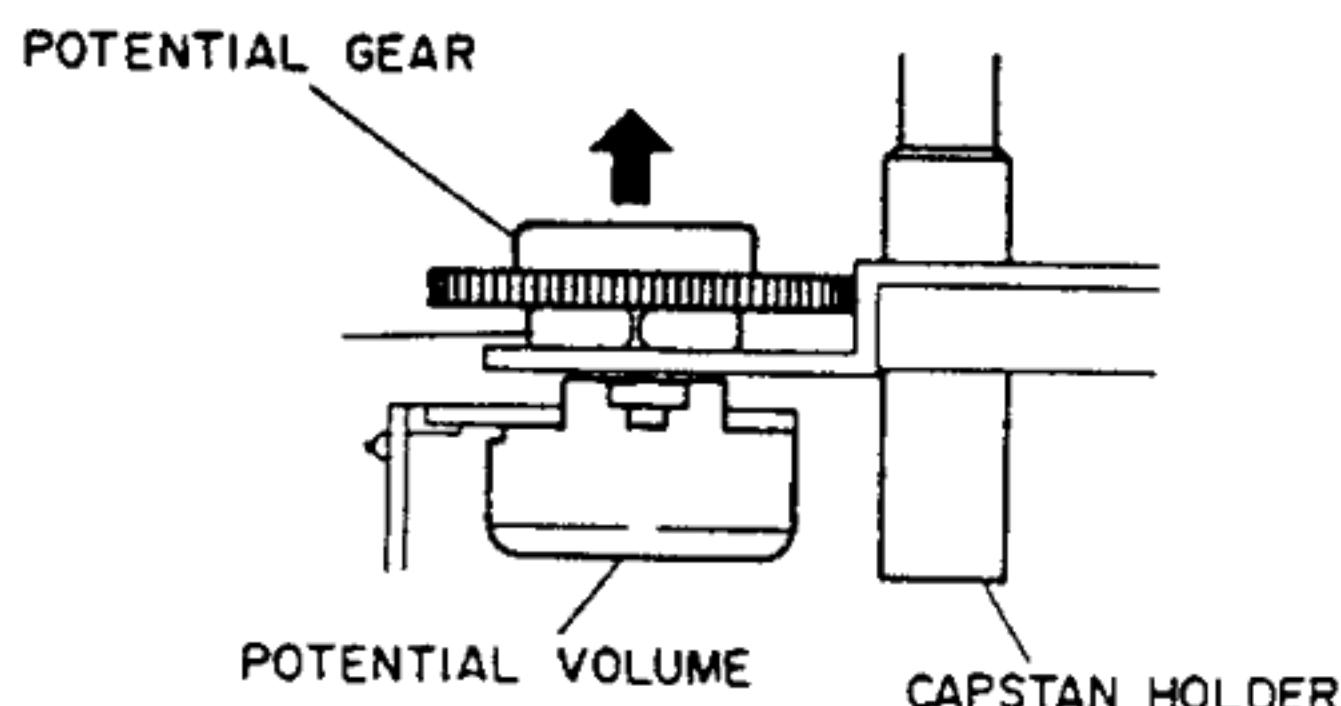

Fig. 3-14
- 4) Remove the potention gear. Unscrew the position potential volume securing nut. (Refer to Fig. 3-14.)